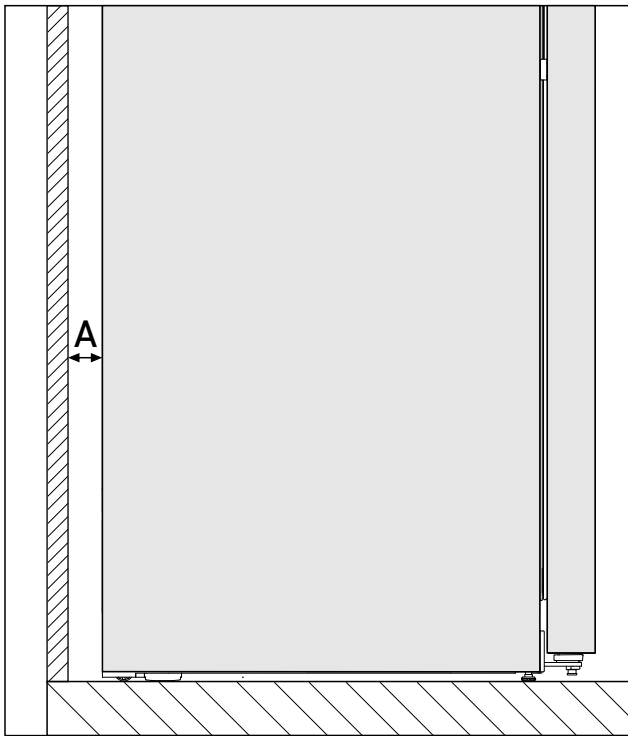

Fig. 3*
The energy consumption has been determined with a gap of Fig. 3 (A) between the rear of the appliance and the wall. If the wall gap is less than Fig. 3 (A), this does not affect the appliance's operability but the energy consumption does increase slightly at a smaller wall gap.*